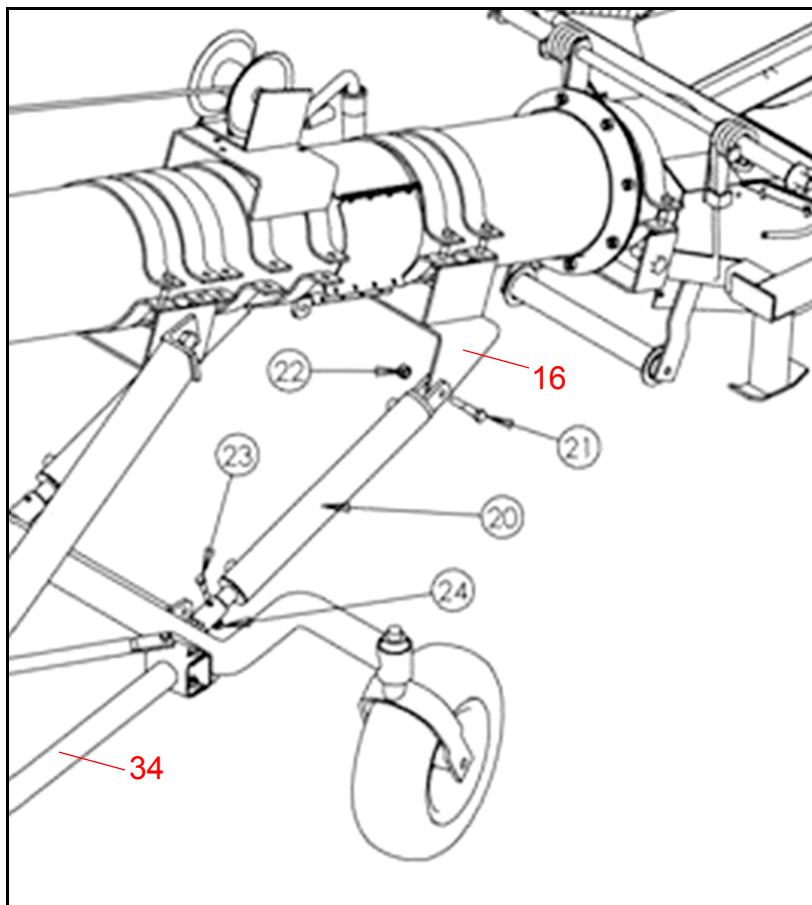

Figure 3.11
1. Connect the fully retracted cylinders (20) to the wheel move suspension bracket (16) and to the ram extension (34) with hardware supplied (21-24). See Figure 3.11.